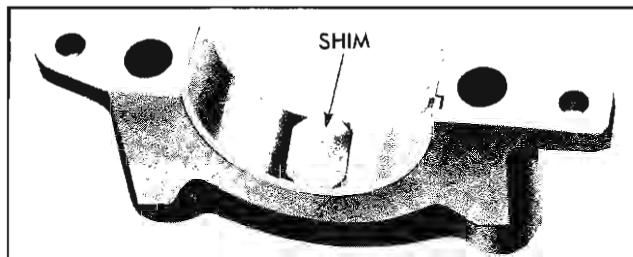

Fig. 6-57 Shim Positioned in Bearing Cap
- Place .002" brass shim $\frac{1}{2}$ " wide by 1" long in main bearing cap with new standard bearing and install cap, pulling up bolts 95 lb. ft. except rear main torque to 120 lb. ft. in step 6. Refer to Fig. 6-57 for position of shim in cap.